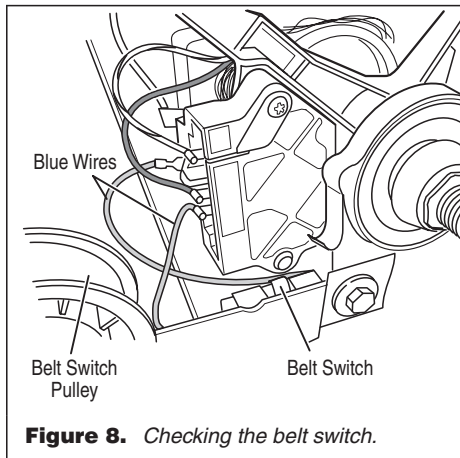

Figure 8. Checking the belt switch.
7. Check the belt switch by measuring resistance between the two blue wires, as shown in figure 8, while pushing up the belt switch pulley.